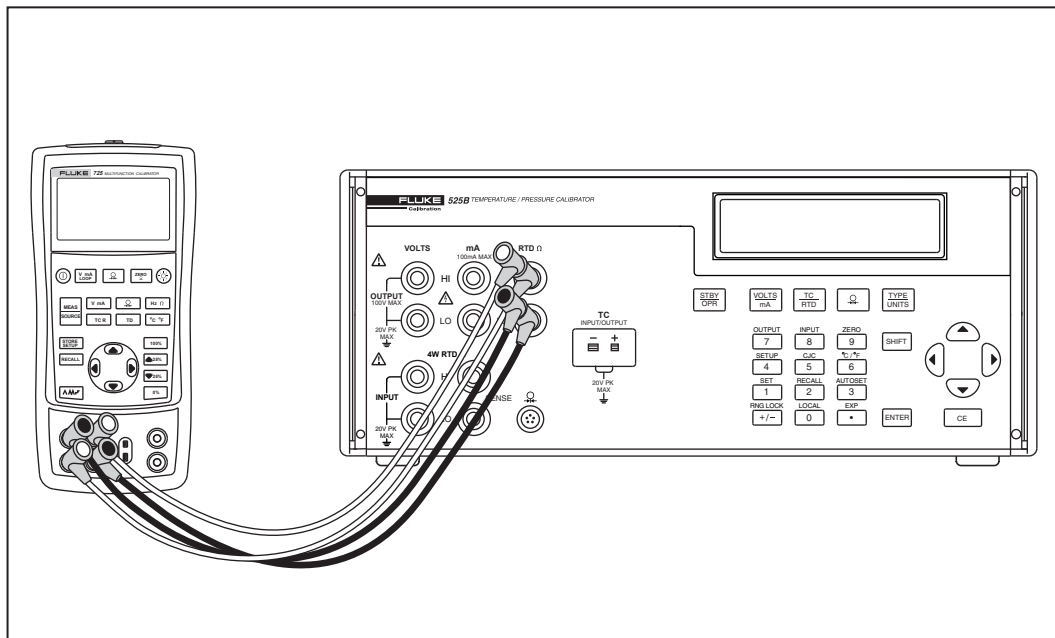

Figure 2-2. Connection to Simulate a RTD Temperature
1. Connect the Calibrator to the unit under test (UUT) as shown in Figure 2-2.